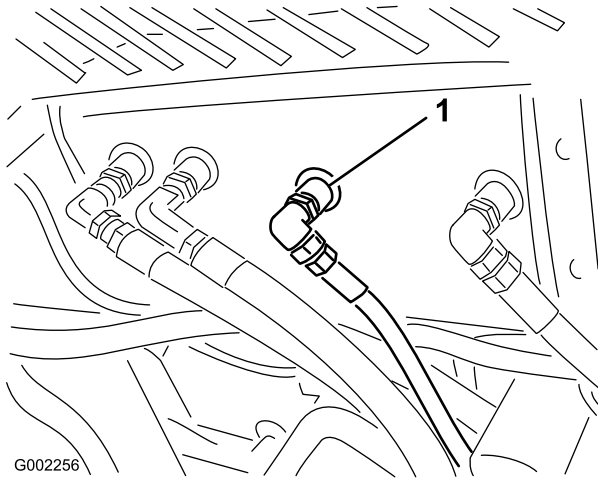

Figure 60
2. Clean the area around one hydraulic hose fitting on the bottom of the hydraulic oil tank (Figure 60).
4. Remove the hose fitting from the tank, allowing the oil to drain into the pan (Figure 60).